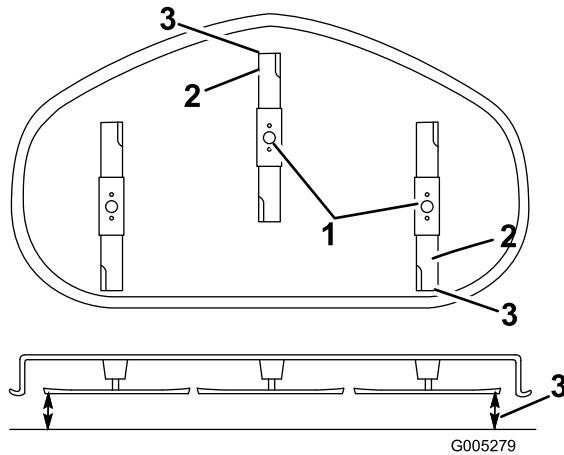

Figure 42
5. Set the height-of-cut at position **D** [3 inch (76 mm)] and carefully rotate the blades so they are facing front to rear (Figure 42).
- Measure from the tip of the front blade to the flat surface and the tip of the rear blade to the flat surface (Figure 42). If the front blade tip is not 1/16-5/16 inch (1.6-7.9 mm) lower than the rear blade tip, adjust the front locknut.
is 1/16-5/16 inch (1.6-7.9 mm) lower than the rear blade tip (Figure 42).